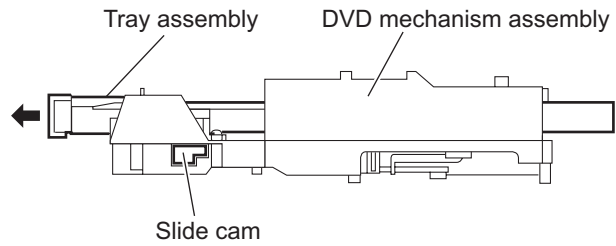

Fig.3
3.2.3 Removing the tray assembly (See Figs.3 and 4)
- (1) From the right side of the DVD mechanism assembly, push the slide cam and pull the tray assembly out of the DVD mechanism assembly in the direction of the arrow. (See Fig.3.)